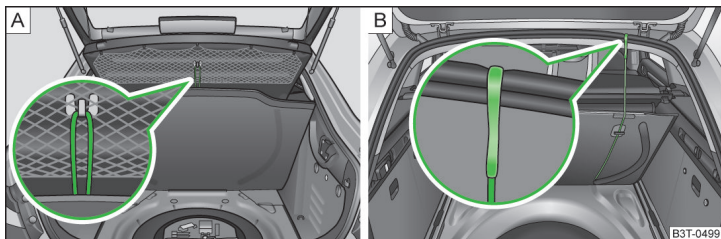

Fig. 101 Fixing the floor covering: Superb / Superb Combi
- With the loop on a hook on the luggage compartment cover » Fig. 101 - A.
- With the hook on the frame of the luggage compartment lid » Fig. 101 - B.